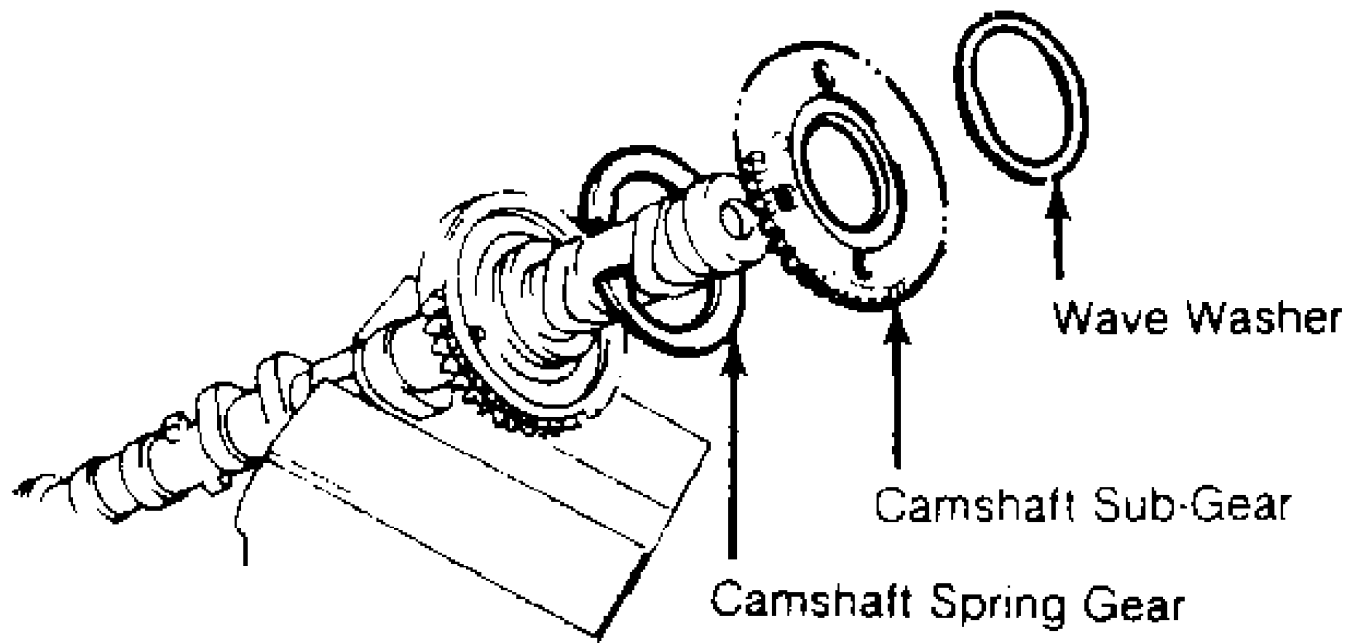
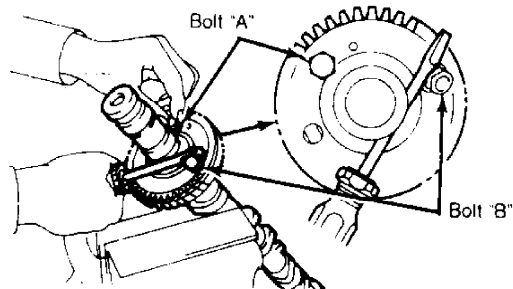

Fig. 15: Installing Camshaft Components
Fig. 16: Location of Bolts "A" & "B"
1) Install hexagonal wrench head portion of camshaft in a vise. Install camshaft gear spring, sub-gear, wave washer and snap ring. See Fig. 15. Install bolt "A" into service hole of camshaft sub-gear. Using a screwdriver, align holes of camshaft main gear and sub-gear by turning camshaft sub-gear clockwise. Install bolt "B". See Fig. 16.